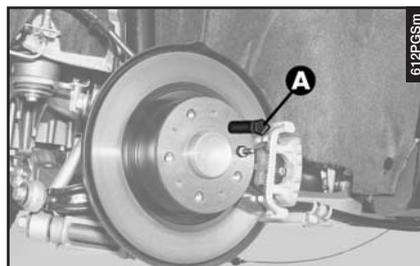

fig. 18
– Screw the centering pin (**A-fig. 18**) in one of the fastening bolt holes.